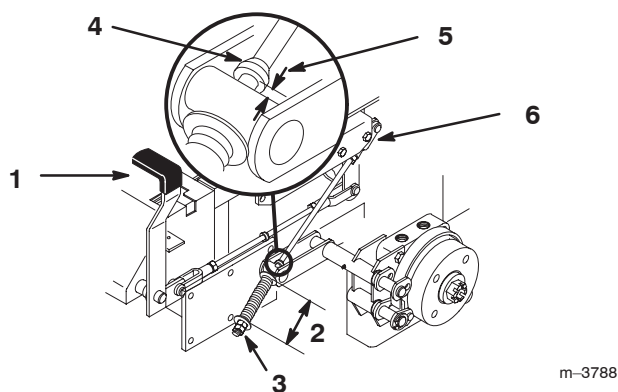

Figure 58
2. Measure the length of the spring. Measurement should be 2-3/4 inch (70 mm) between washers (Fig. 58).
3. If adjustment is necessary, loosen the jam nut below the spring and tighten the nut directly below the yoke (Fig. 58). Turn the nut until the correct measurement is obtained. Tighten the two nuts together and repeat on opposite side of unit.
- A. Measure the distance between the trunnion roller and the collar on brake rod. The measurement should be $3/16$ – $1/4$ inch (5–7 mm) (Fig. 58).
6. If adjustment is necessary, loosen the jam nut directly below the yoke. Turn the bottom rod until the correct measurement is obtained (Fig. 58). Tighten jam nut at yoke